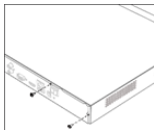

Figure 2-1 Remove
Step 1 Unfasten screws on the back, and push the cover backwards to remove the cover. Refer to Figure 2-1.